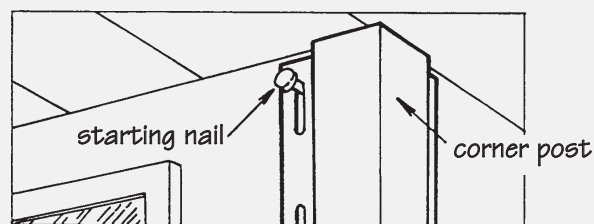

Figure 19.
- Space the fasteners a maximum of 16" apart for the horizontal siding panels, every 12" for the vertical siding panels, and every 8" to 10" for the accessories. These distances may be increased if the manufacturer permits greater spacing based on wind load testing. Start fastening vertical siding and corner posts in the top of the uppermost slots to hold them in position. Place all other fasteners in the center of the slots (Fig. 19).